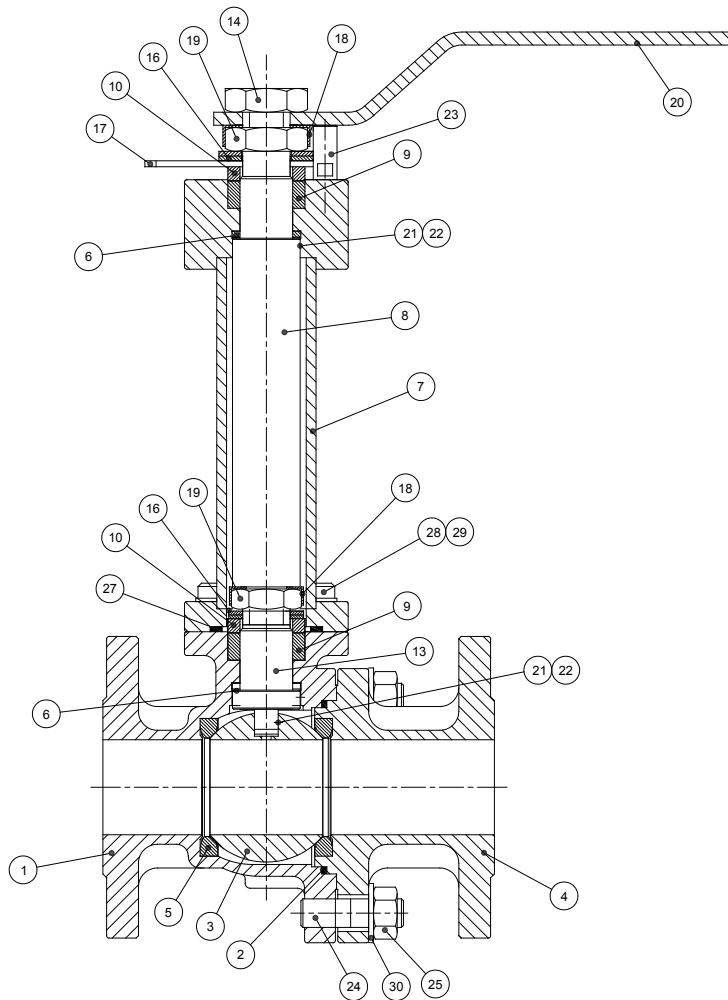

Fig. 7
- 12.1 Figures 7 & 8 and table 3 on the following pages show the typical exploded views and part descriptions for all valve sizes.